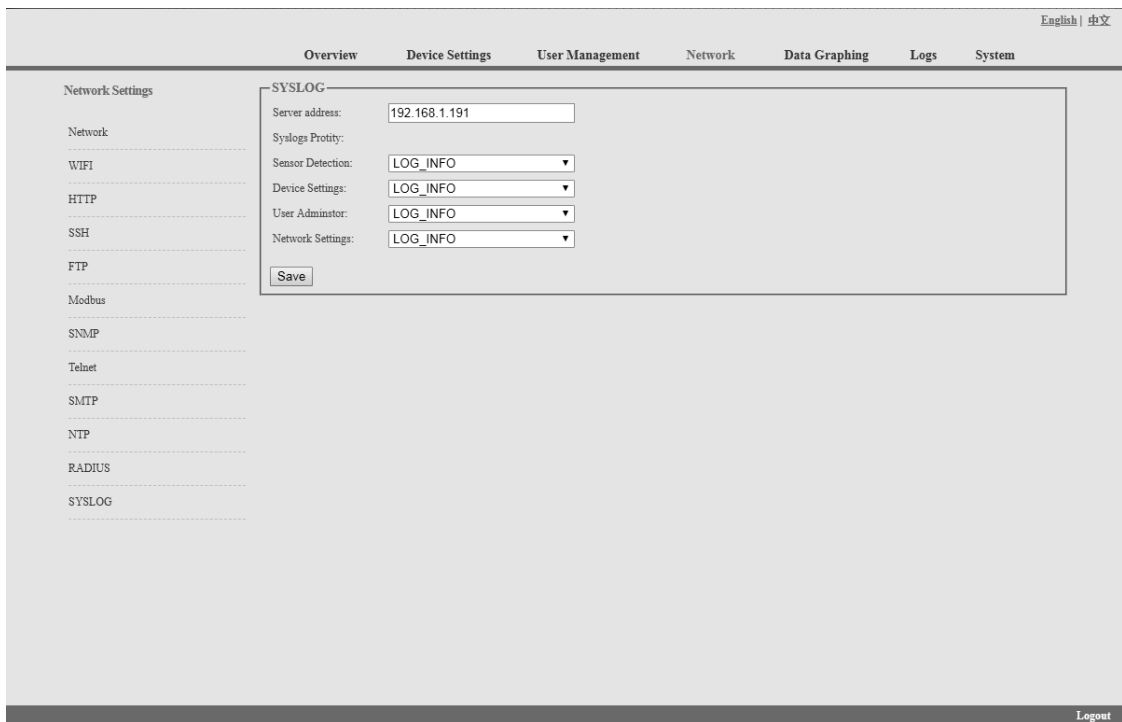

Figure 1-16
L. SYSLOG: fill in the SYSLOG server IP address as shown in figure 1-16